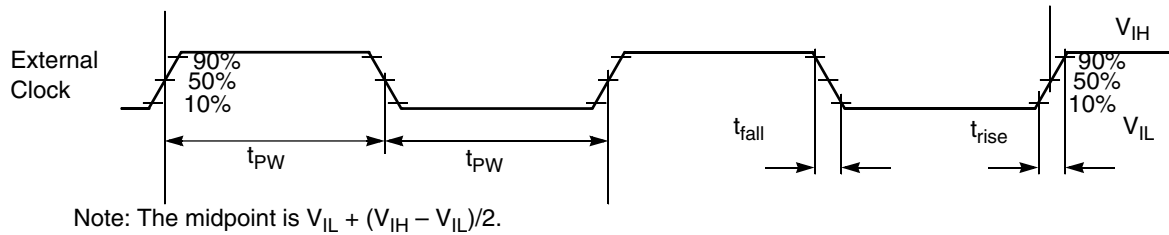

Figure 7. External Clock Timing
1. See Figure 7 for detail on using the recommended connection of an external clock driver.